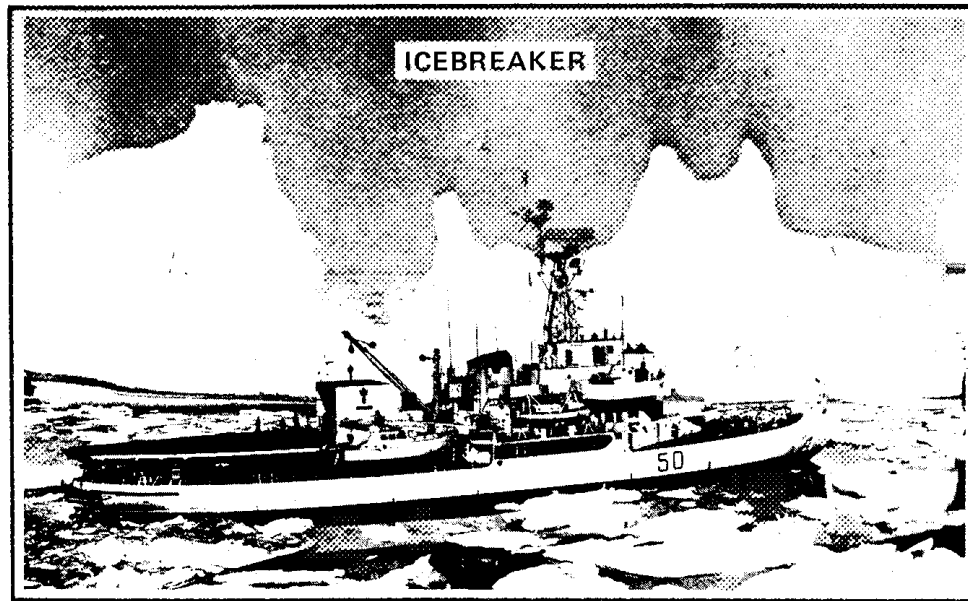

Figure 8-70 Icebreaker
- e. **Icebreakers** — (See Figure 8-70.) The icebreaker is an important vessel in Canada, which has a large arctic territory and where rivers and lakes freeze up in the winter. They are heavily built, wide-beamed vessels, usually with a midships superstructure, and almost always with a high structural mast for radar and electronic gear.